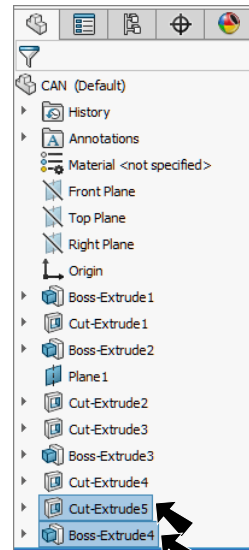

Fig. 92
Step 2. **Ctrl click Cut-Extrude5 and Boss-Extrude4** in the Feature Manager to select both features, **Fig. 92**.